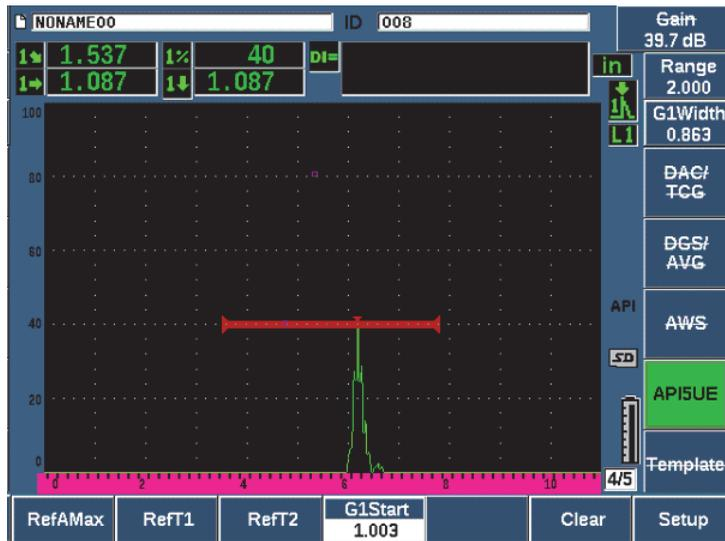

Figure 11-27 Storing the T_2 point
10. Press **RefT2** (P3) to collect the 6 dB drop position of the trailing peak and assign this value as T_2 (see Figure 11-27 on page 264).